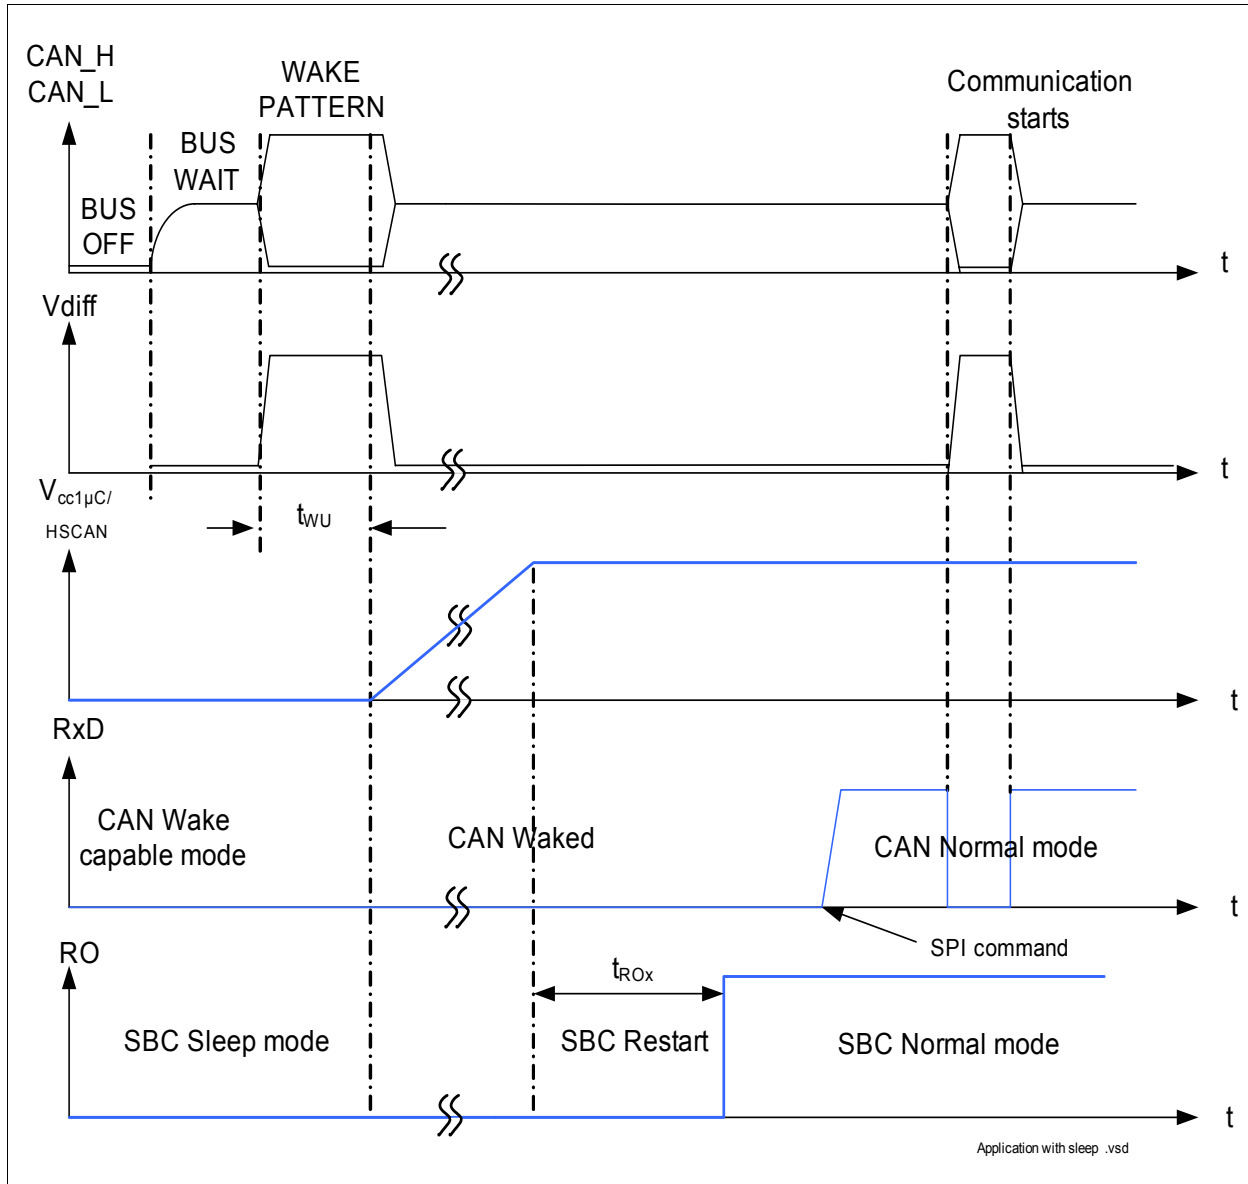

Figure 11 Timing during Transition from Sleep to Normal Mode
Refer to Figure 11 for a description of the matching of the transceiver modes with the SBC mode.
Wake-up is possible via a CAN message (filtering time  $t > t_{WU}$ ), it automatically transfers the SBC into the SBC Restart Mode and from there to Normal Mode the RxD pins in set to LOW, see Figure 11. The microcontroller is able to detect the low signal on RxD and to read the wake source out of the "Wake Register Interrupt" register (000) via SPI. No Interrupt is generated when coming out of Sleep Mode.
In SBC Sleep Mode, a wake-up on the CAN cell will set the SBC to Restart Mode automatically if the CAN Wake Capable Mode of the SBC is selected via SPI. **Figure 11** shows the typical timing.